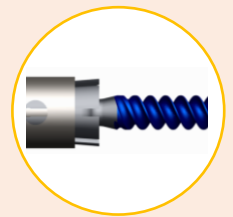

Figure 7c
- While holding the screw firmly on the Modular Screw Driver, thread the knob counterclockwise until the collet and Driver sleeve completely surrounds and secures the screw. (Figure 7c)